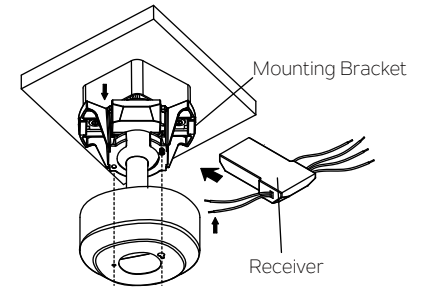

Fig. 15
Step 1. Insert the receiver into the mounting bracket, and keep flat in opposition of ceiling. (Fig. 15)